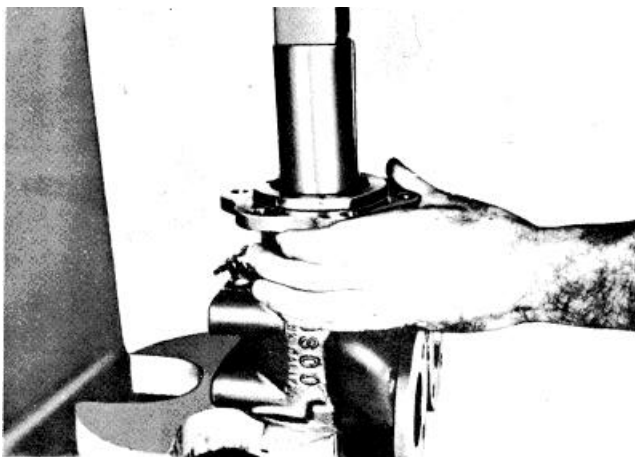

Fig. 8-57 (N20809). Install The Oil Seal Into The Housing.
- 2. Install the key (10) into the shaft.
- 3. Push the oil seal (11) into the drive side of the housing as shown in Fig. 8-57.